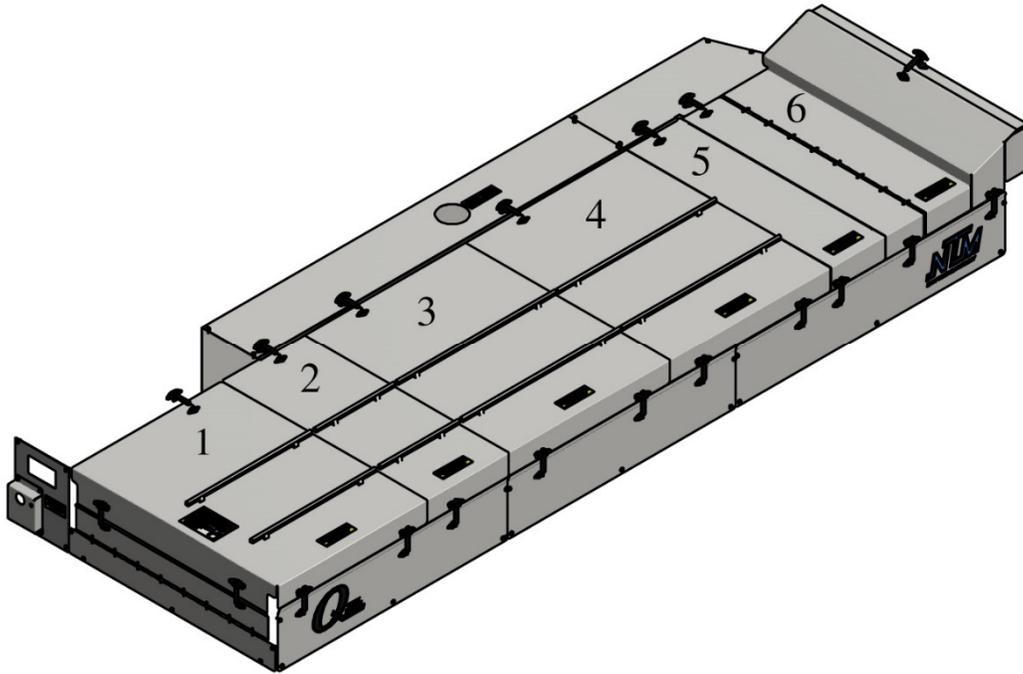

Figure 52: Remove Top Covers
1. Remove Top Covers number 1, 2, 3, 4, and 5 (Figure 52) and set aside.